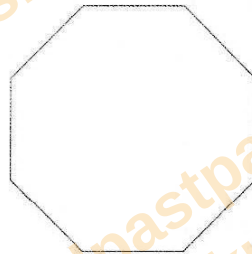

Figure 1
- 4 **Figure 1** shows a regular Polygon.